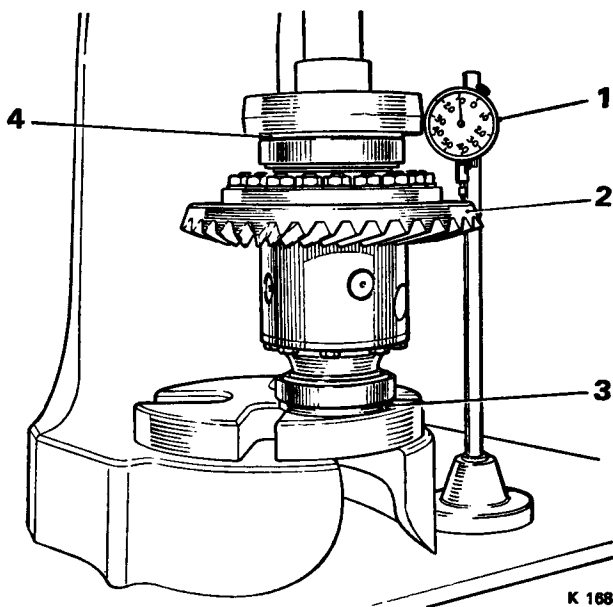

FIG. J5 CHECKING THE CROWN WHEEL FOR TRUTH
13. Place the roller bearing outer tracks in position, and stand the assembly on one end in a press with an adjusting washer fitted to each bearing (see Fig. J5).